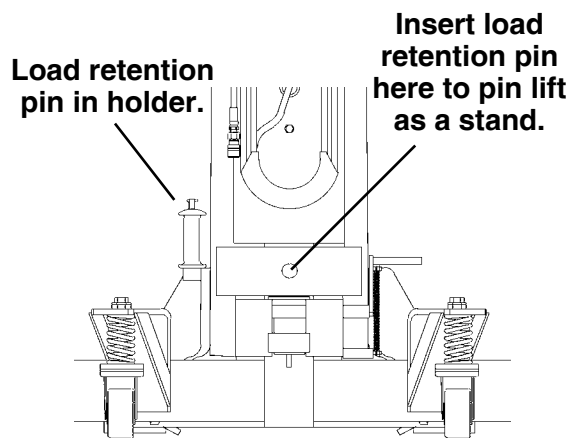

Figure 7
3. Remove the load retention pin from its holder on each lift. Insert the pin through the oblong hole in the lift stop bar and fully into the corresponding hole in the downstop lug. Fig. 7.